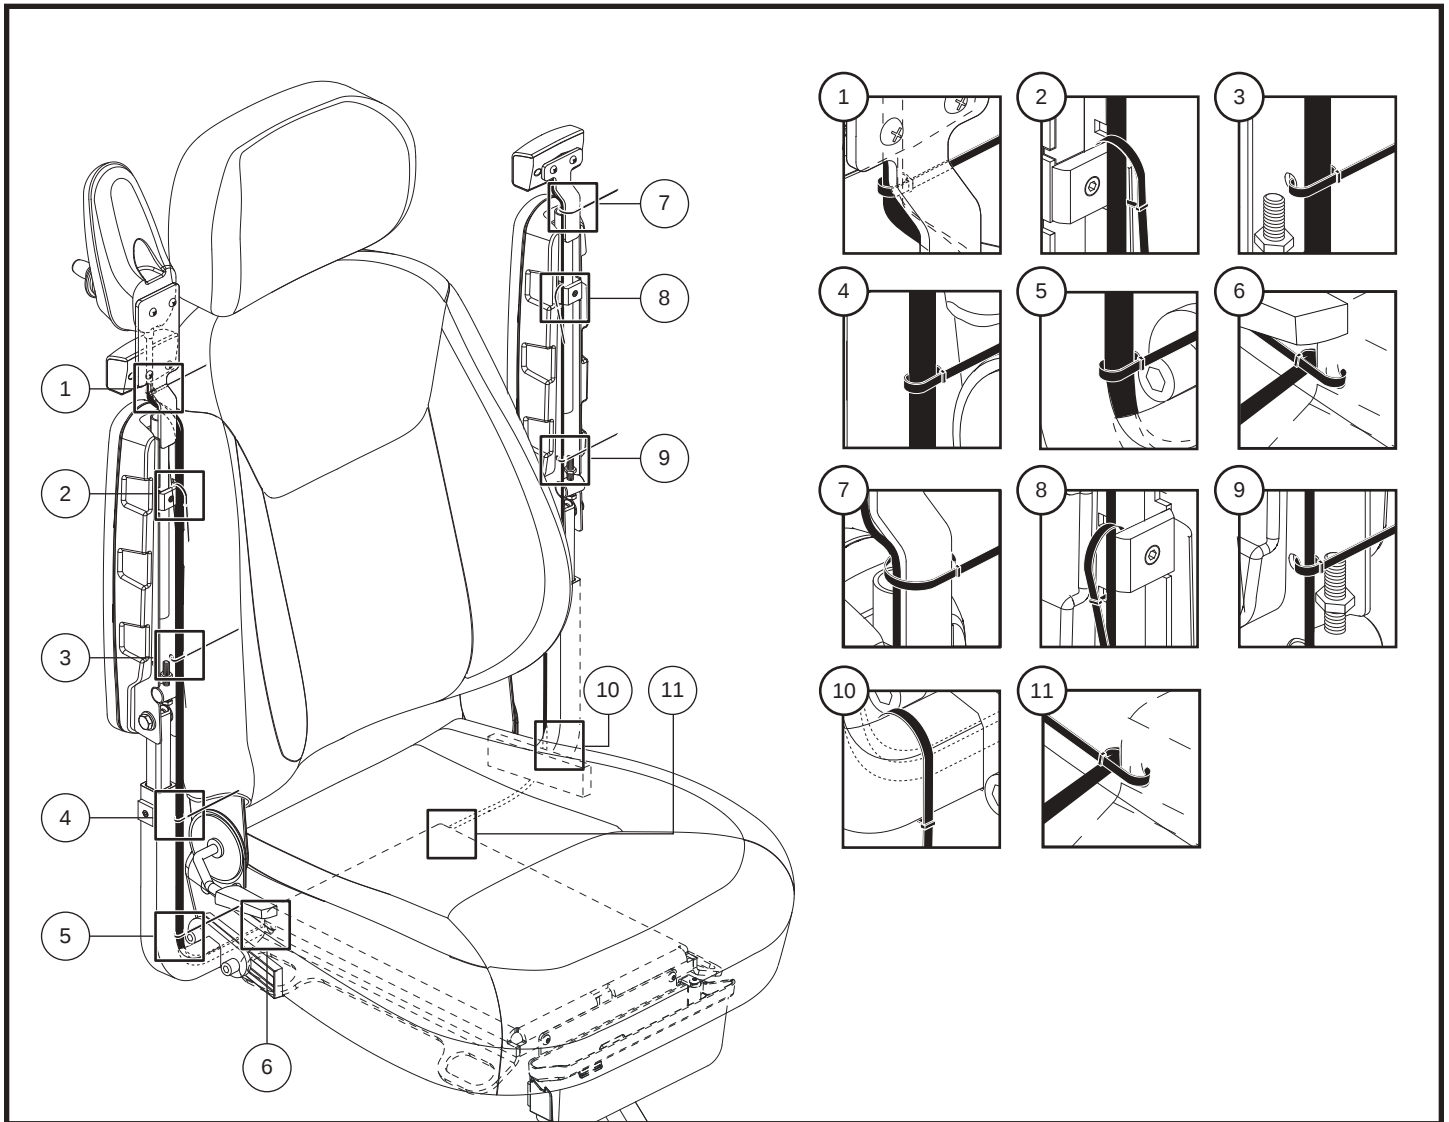

Figure 11. Controller Harness Routing
17. Secure the harnesses on the armrest with the supplied wire-ties as shown in figure 11.
19. Secure the harnesses along the armrest receiver and seat plate with supplied wire-ties as shown in figure 11.
WARNING! Ensure that all harnesses are properly routed as shown in figure 11. Improper routing can cause damage to the light switch, controller or other electrical components.
2. For locations 1 through 10, tighten the wire-ties into place according to the proper harness routing as shown in figure 11.
9. Route the controller harness along the seat frame and secure with wire ties. **See figure 11.**